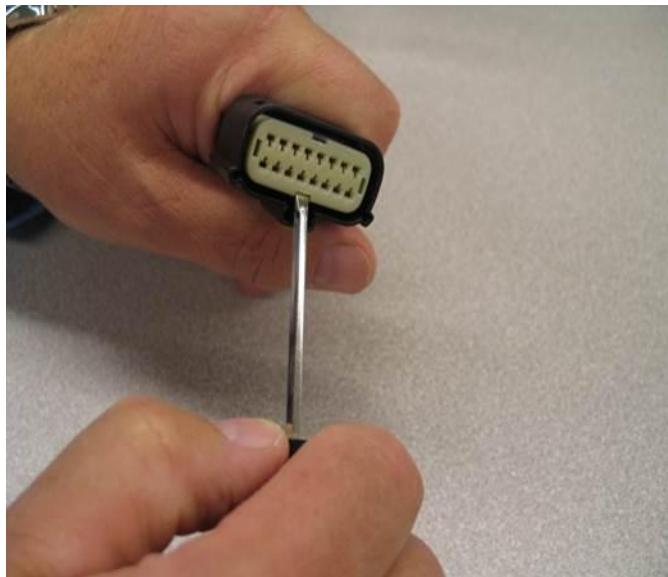
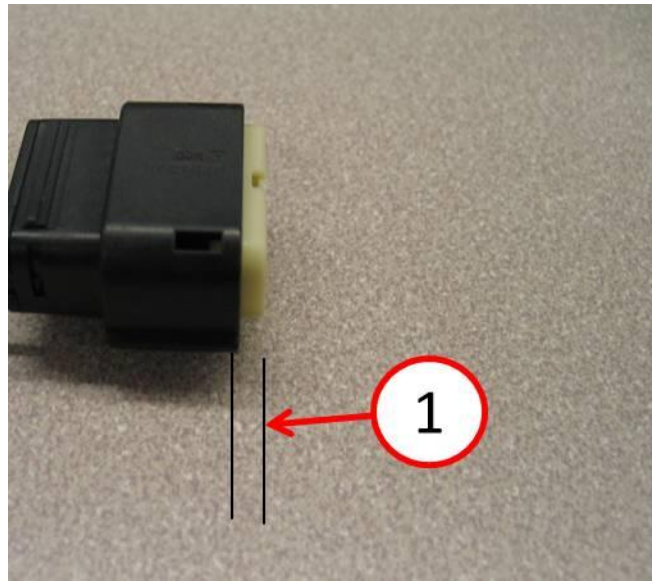

Fig. 2 LIFT TPA 5MM
Fig. 3 PROPER EXTENSION OF TPA
14. To release the terminals from the original Oxygen Sensor Module connector; use a narrow blade, flat screwdriver (3 mm wide max), and pry the white TPA (white cover seen when looking in connector). Notice the travel of white TPA is only .2" (5 mm) or until a "click" is heard. This is the release point of the TPA. The TPA is a device that locks the release finger so that when seated, terminal will not and cannot be disengaged, (Fig. 2) and (Fig. 3). Do not extend the TPA past .2" (5 mm) or the TPA may be damaged.
17. Working with the Overlay Harness Oxygen Sensor Module connector; use a narrow blade, flat screwdriver (3 mm wide max), and pry the white TPA (white cover seen when looking in connector). Notice the travel of white TPA is only 5 mm or until a "click" is heard. This is the release point of the TPA. The TPA is a device that locks the release finger so that when seated, terminal will not and cannot be disengaged, (Fig. 2) and (Fig. 3) above.